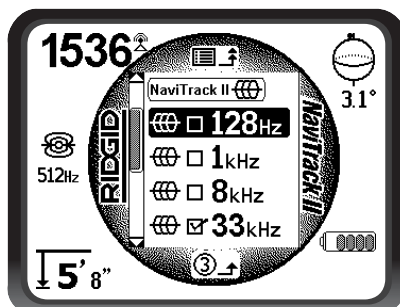

Figure 16 – Highlighting a Desired Frequency (128 Hz)
2. Using the up and down arrows, highlight the frequency desired. In Figure 16, below, the operator is activating a 128 Hz frequency.